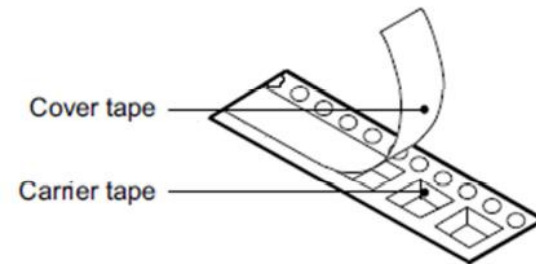

Figure 12: Cover tape and carrier tape sealing
- Carrier tape is sealed with cover tape (see figure 12).